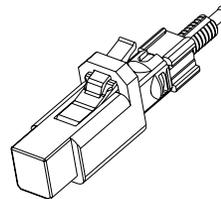

Figure 4-7
*Leave the front dust cap ON if you are not using the CTS system (Figure 4-7).*